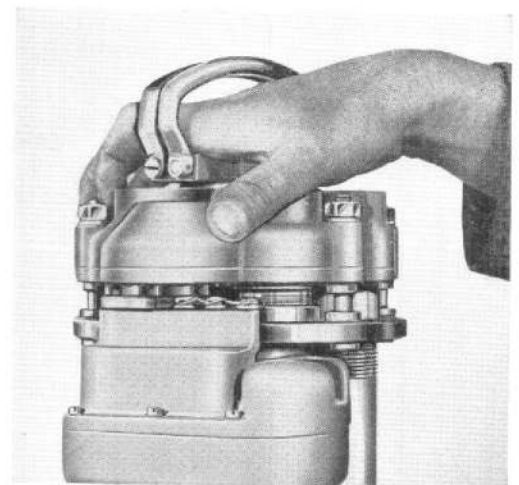

Fig. 36. Replacing firing head
- Grip the firing head as shown in fig. 36, enter the heads of the studs into the holes in the barrel plate; push the firing head well down against the spigot spring loading and turn the firing head in a clockwise direction as far as possible. Ensure that the heads of the studs click up into position in the recess machined on the underside of the barrel locking plate; check this by attempting to turn the firing head, first in one direction and then in the other. Do not use the handle assembly for this operation, as the sealing pads may be inadvertently brought forward before the head is properly located.